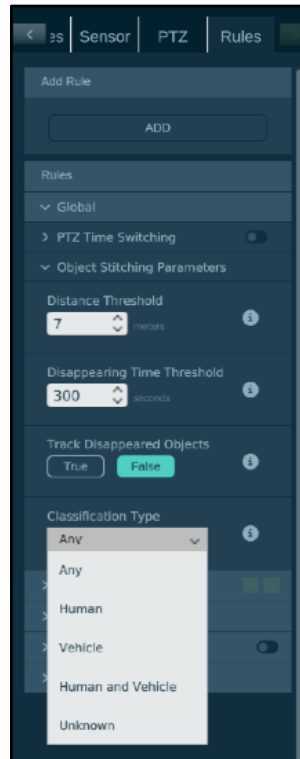

Figure 86. Rules > Global > Object Stitching Parameters Panel
1. From the **Configuration** panel > **Rules** tab. Expand **Global > Object Stitching Parameters** panel. See *Figure 86. Rules > Global > Object Stitching Parameters Panel*.